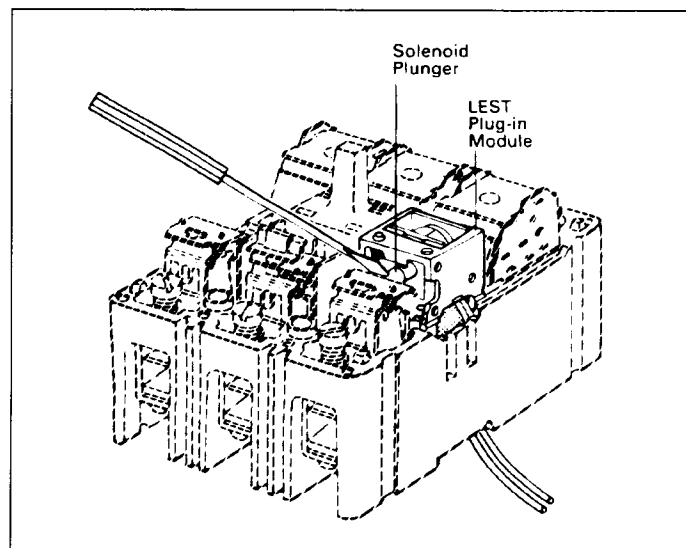

Fig. 2-8. Testing Operation of Solenoid Plunger
- c. Position a small flat-blade screwdriver (Fig. 2-8) under the head of the solenoid plunger. Pry the plunger free from the seated position inside the solenoid and check that circuit breaker trips.